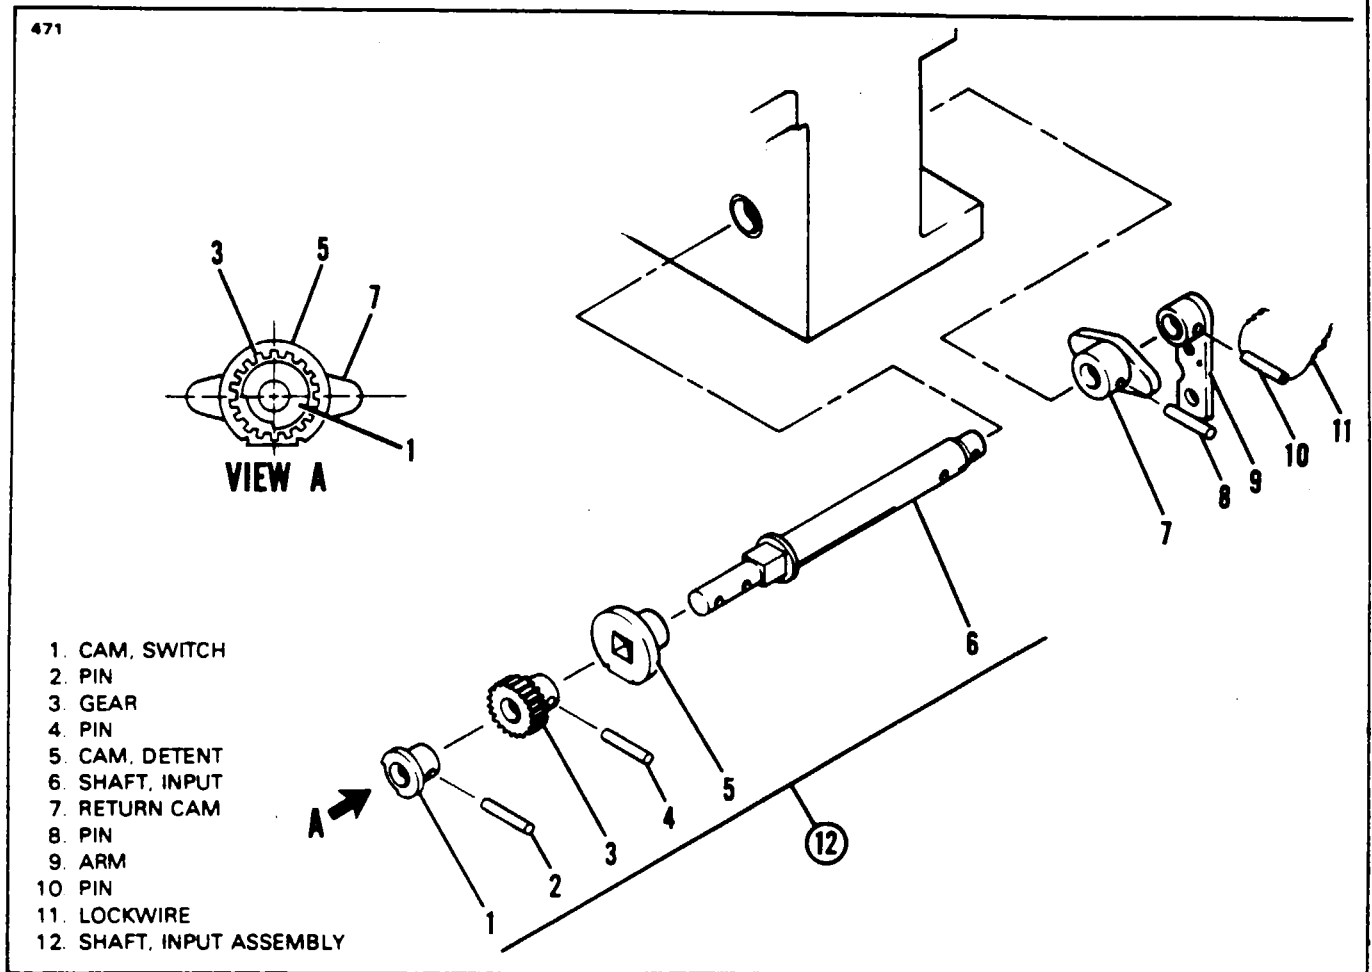
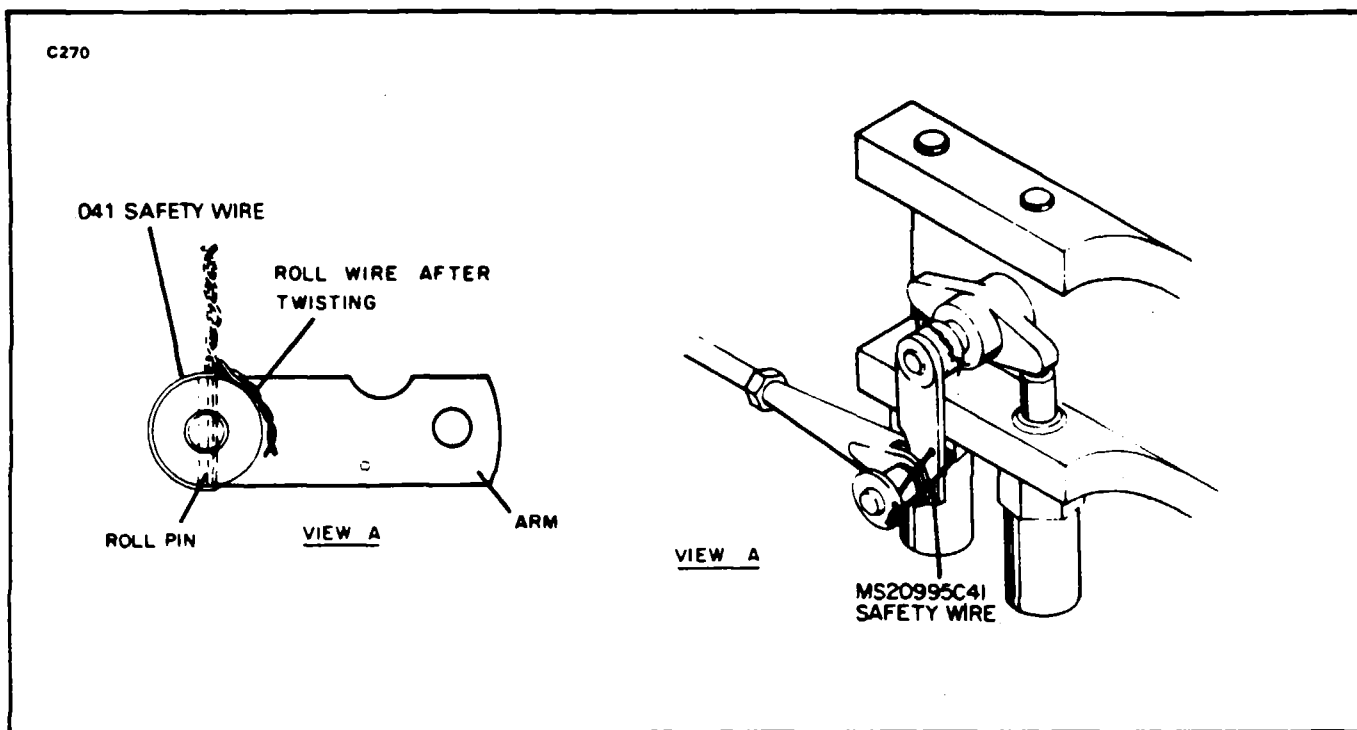

Figure 6-15. Power Pack Handle-Release Mechanism (Wiebel Tool)
Figure 6-16. Safeying Control Arm (Wiebel Tool)
6-69. DISASSEMBLY OF LANDING GEAR HANDLE-RELEASE MECHANISM. (Refer to Figure 6-15.)
6-83. ASSEMBLY OF POWER PACK HANDLE-RELEASE MECHANISM. (Refer to Figure 6-15.)
- a. If the switch cam (1), the gear (3) and the detent cam (5) was removed from the input shaft (6), then the parts must be assembled and indexed as shown in Figure 6-15. View "A."
- b. Lubricate the input shaft (6), slide detent cam (5) and gear (3) into place and secure gear (3) with roll pin (4).
- c. Slide switch cam (1) onto input shaft (6) and secure with roll pin (2). Install assembly into Power Pack body.
- d. Install the return cam (7) and secure with roll pin (8). Check the landing gear shaft for freedom of movement in the Power Pack body. Check for slight end play between the input shaft and the Power Pack body. If shaft binds, remove return cam (7), lap face on return cam boss and reinstall return cam.
- e. Install the Power Pack control arm (9) on the end of the shaft with the arm pointing down. Align the holes between the shaft and the arm assembly and install the roll pin (10). Install .041 safety wire (11) through the roll pin and around half of the arm. Pull the twisted end of the safety wire around the other half of the arm assembly. (Refer to Figure 6-16.)